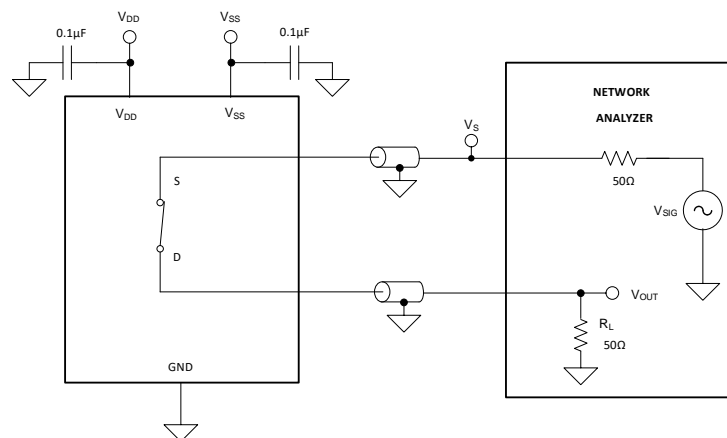

**Figure 26. Crosstalk Measurement Setup**
Crosstalk is defined as the ratio of the signal at the drain pin (D) of a different channel, when a signal is applied at the source pin (Sx) of an on-channel. Figure 26 shows the setup used to measure, and the equation used to compute crosstalk.